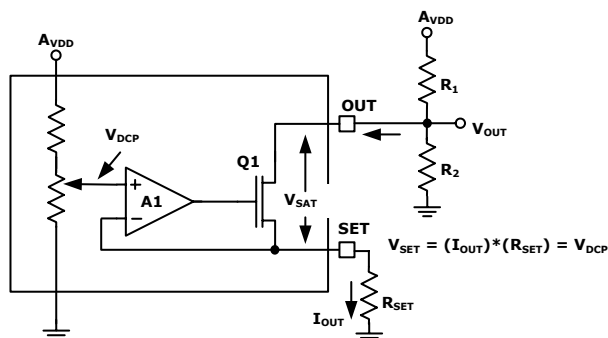

FIGURE 5. CURRENT SINK CIRCUIT
**Electrical Specifications** Test Conditions:  $V_{DD} = 3.3V$ ,  $A_{VDD} = 18V$ ,  $R_{SET} = 5k\Omega$ ,  $R_1 = 10k\Omega$ ,  $R_2 = 10k\Omega$ , (See Figure 5); unless otherwise specified. Typical values are at  $T_A = +25^{\circ}C$ . **Boldface limits apply over the operating temperature range, -40 $^{\circ}C$  to +85 $^{\circ}C$ .**
**Electrical Specifications** Test Conditions:  $V_{DD} = 3.3V$ ,  $A_{VDD} = 18V$ ,  $R_{SET} = 5k\Omega$ ,  $R_1 = 10k\Omega$ ,  $R_2 = 10k\Omega$ , (See Figure 5); unless otherwise specified. Typicals are at  $T_A = +25^\circ C$ . **Boldface limits apply over the operating temperature range,  $-40^\circ C$  to  $+85^\circ C$ .** (Continued)
Figure 5 shows the schematic of the OUT pin current sink. The circuit made up of amplifier A1, transistor Q1, and resistor RSET forms a voltage controlled current source.